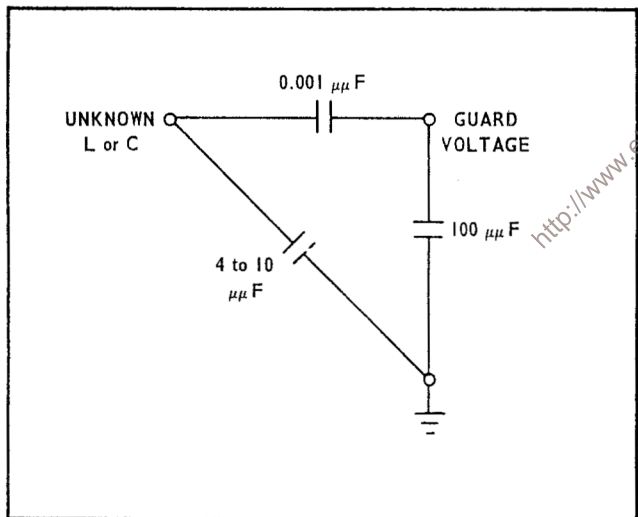

Fig. 2-11. Guard Voltage adjust external circuit.
4. Use a low capacitance tool and push the 0.001 $\mu\mu\text{F}$ capacitor open lead into the GUARD VOLTAGE terminal so it makes contact. The external circuit is now as shown in Fig. 2-11. Adjust the Guard rheostat so the meter gives the same reading with and without the 0.001 $\mu\mu\text{F}$ capacitor touching the GUARD VOLTAGE terminal.